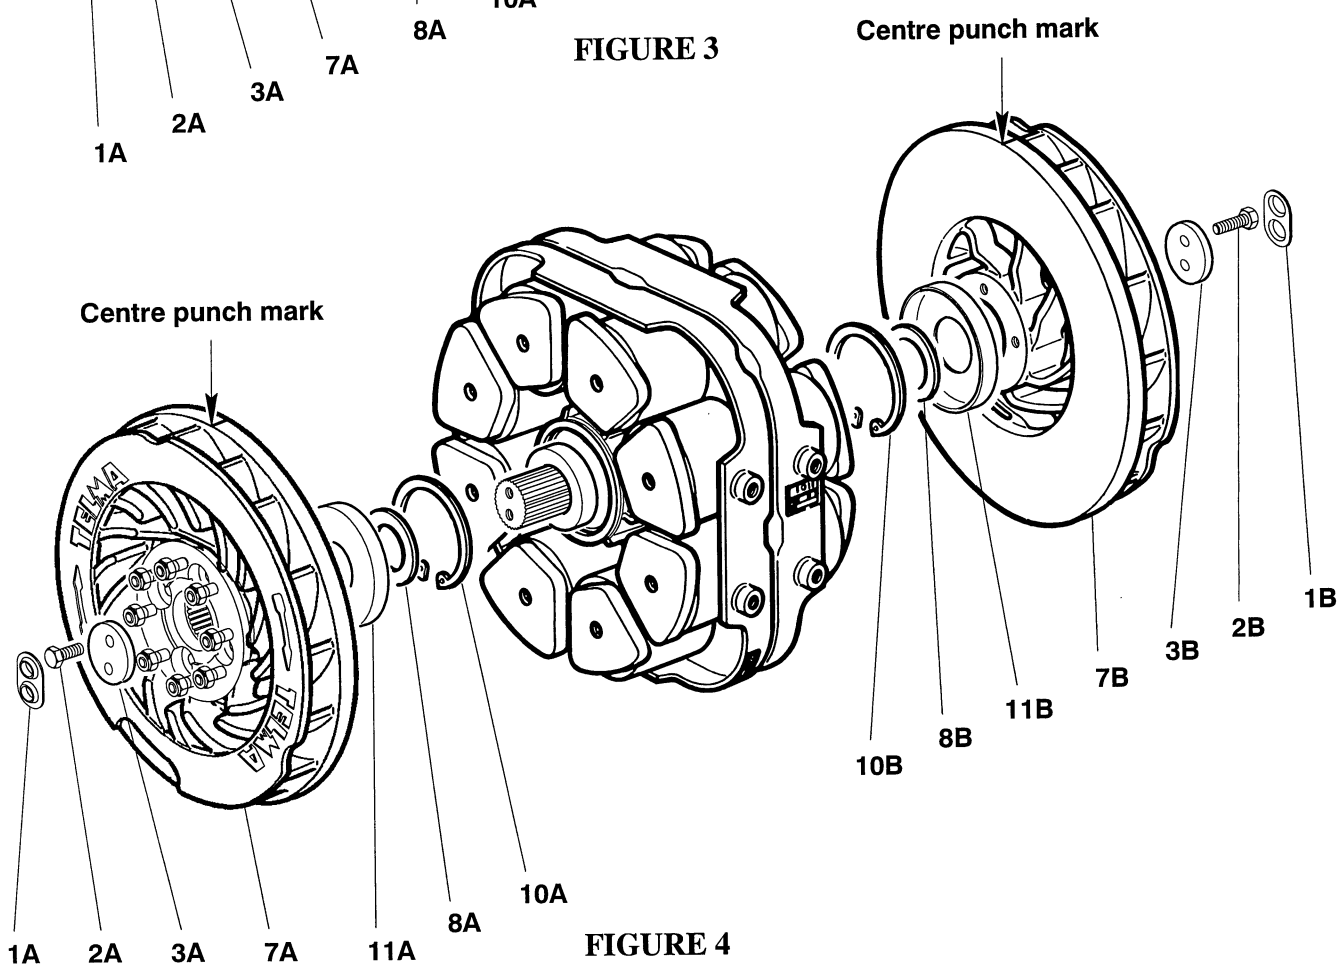

FIGURE 4
- **Figure 4 : LLG version (Long Life Greasing)**
- the tab washers, items 1A and 1B
- the shaft end screws, items 2A and 2B